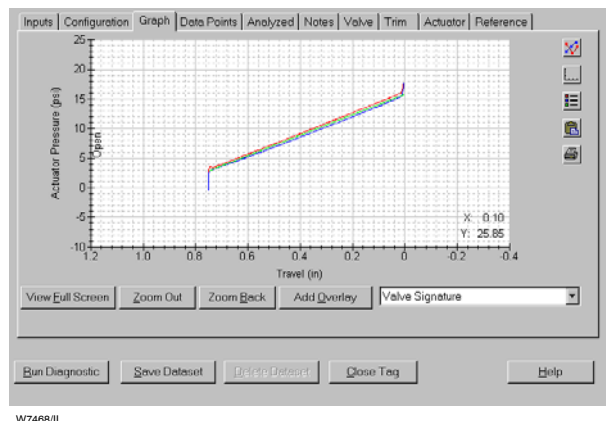

Figure 5. Valve Signature Display
- Valve Signature (see figure 5)